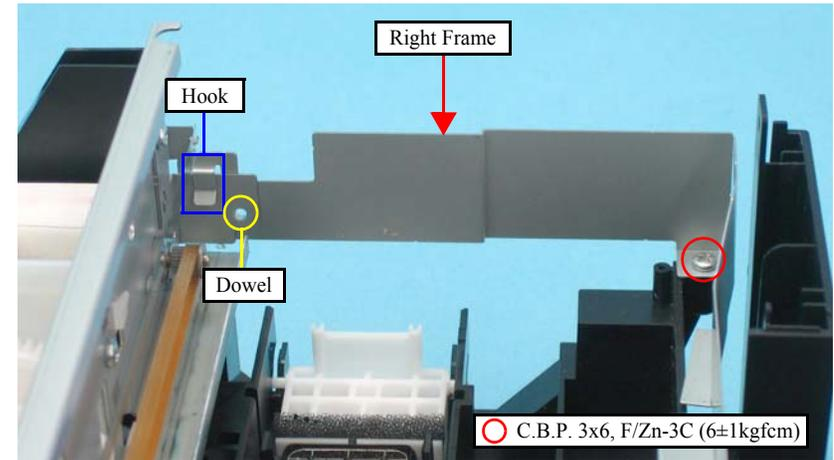

Figure 4-36. Removing Front Frame/Right Frame (2)
- As shown in Figure 4-36, secure the Front Frame and Right Frame together with the screw. (Place the Right Frame on top of the Front Frame.)